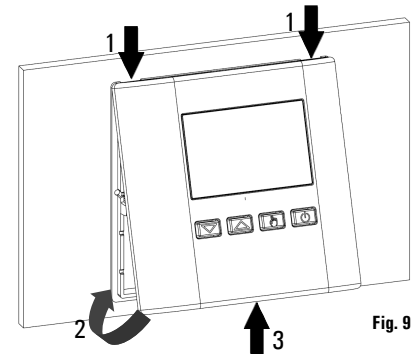

Fig. 9
- Close the upper side of the cover while, at the same time, slightly pressing with a finger the plastic tooth on the bottom side of the base making it lean towards the inner side of the thermostat (see the arrow in Fig. 9).